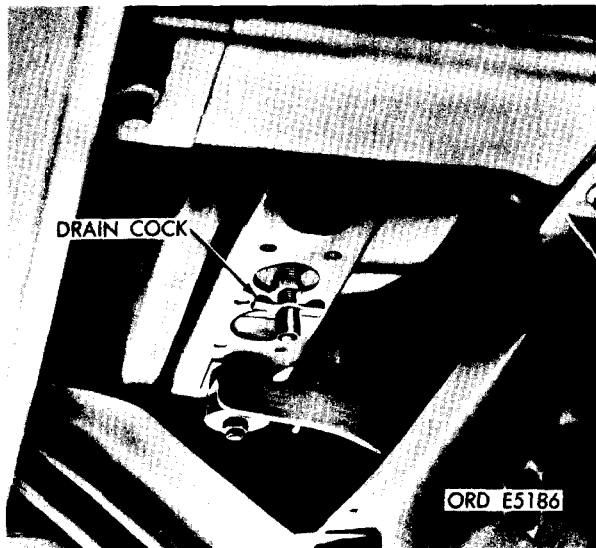

Figure 3-14. Radiator drain cock.
- (1) Place container under radiator drain cock, if coolant is to be reused. Open drain cock, as located by figure 3-14.